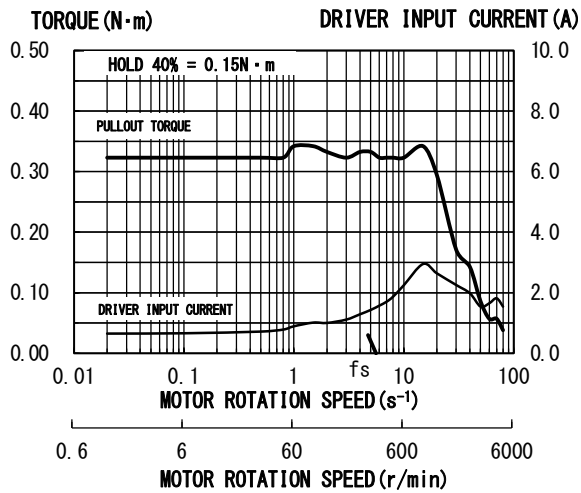

Fig. 9
| | PKP545N18A (B) 2 | 1.8 | 9 | OFF | OFF | OFF | ON | OFF | Fig. 9 |